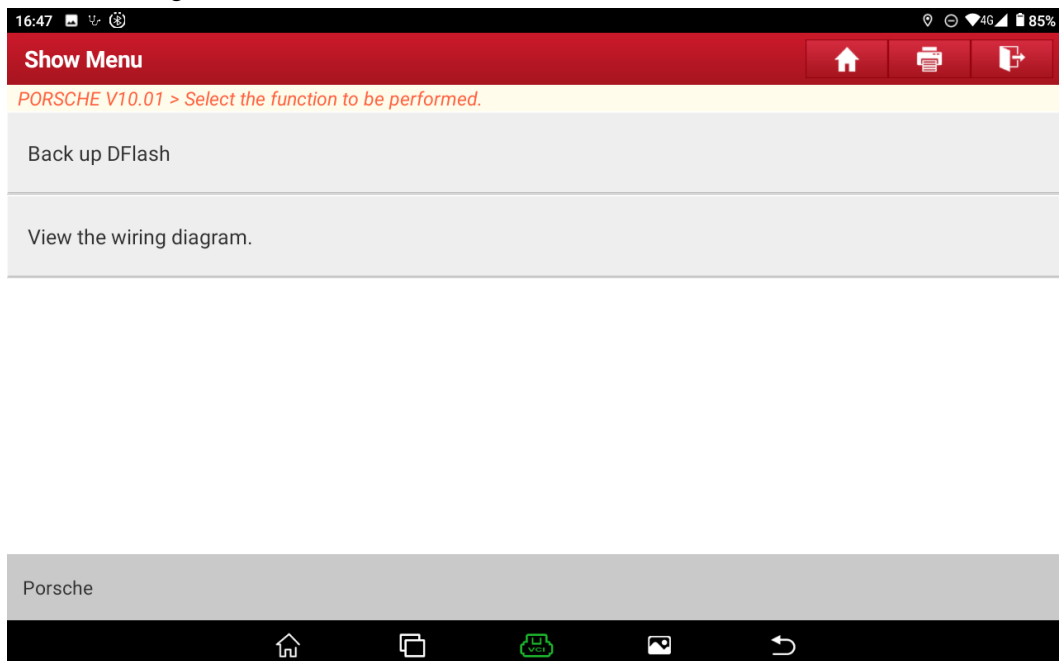

Figure 1-5 Immobilizer Password Reading sub-function menu
4. Choose Immobilizer Password Reading > Cayenne > 2011-2017 > 5M48H. The current menu is shown in Figure 1-5.